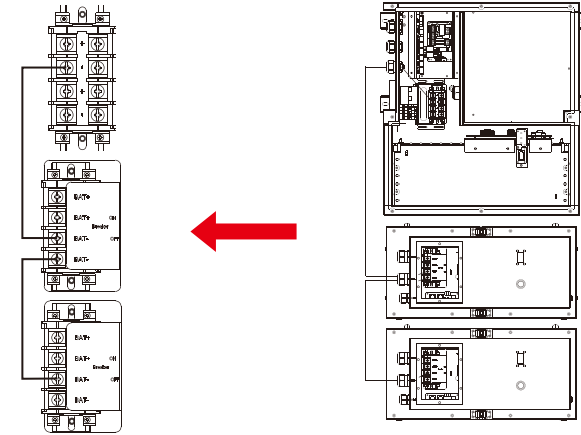

Figure 2.36 Connect the Negative Power Line
Step 19 Connect negative power line for expansion (Figure 2.36).